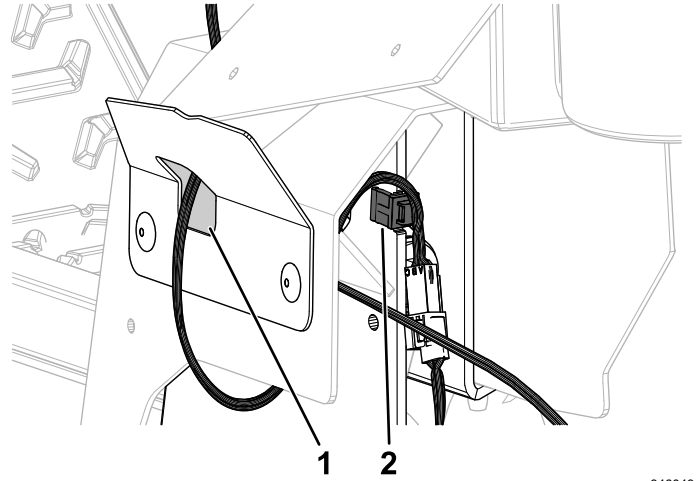

Figure 8
2. Route the wire harness on the motion-control lever through the hole in the left cover plate (Figure 8).
3. Secure the wire harness to the notch in the left motion-control plate (Figure 8).